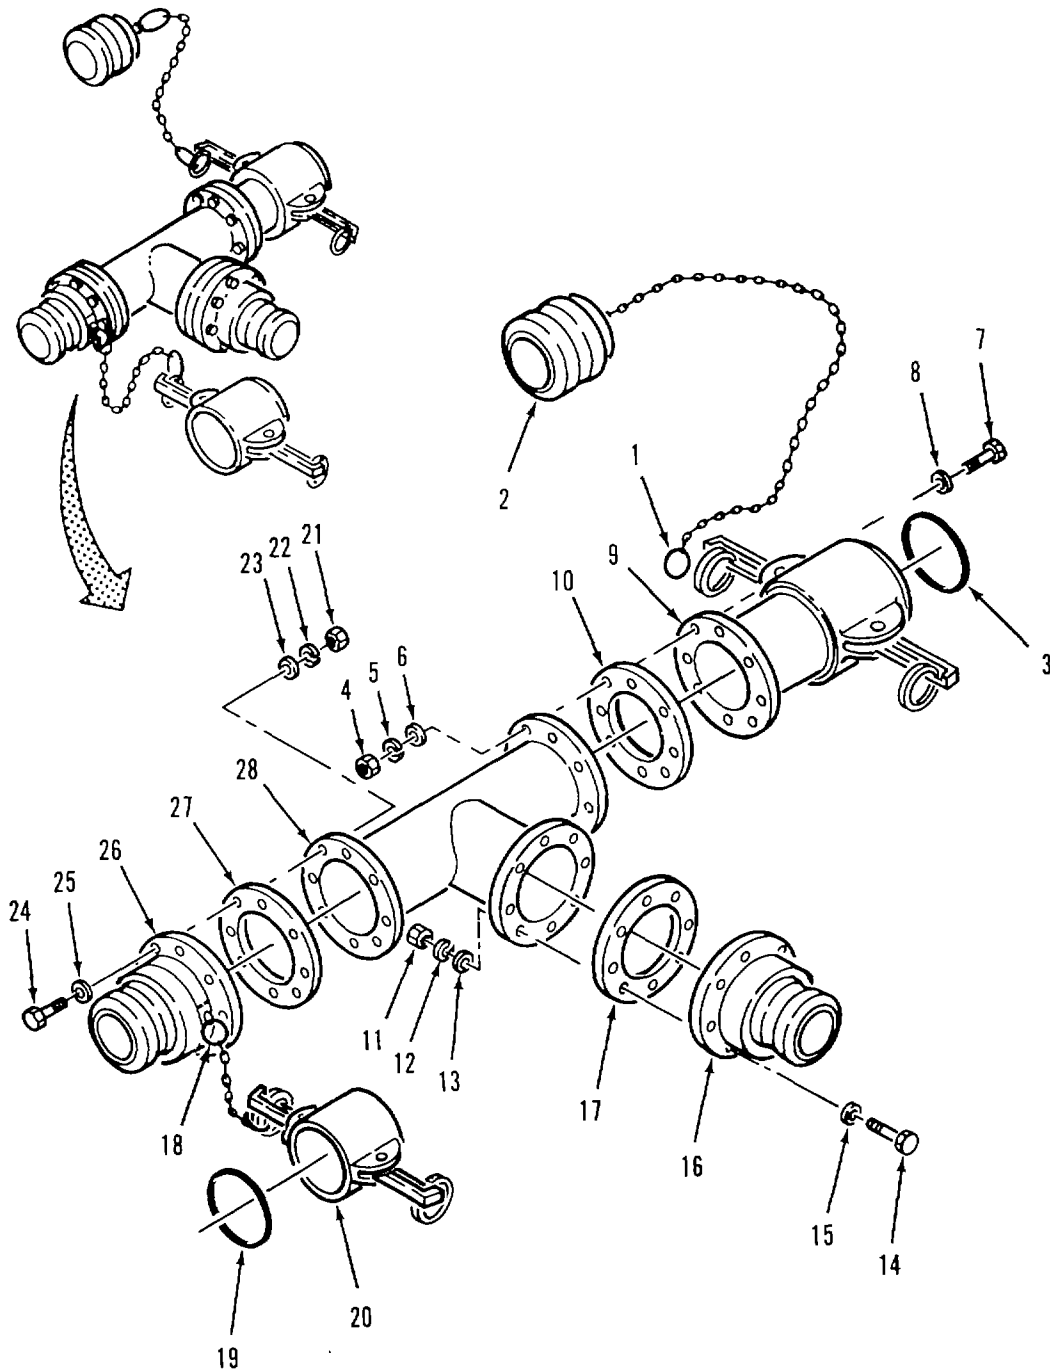

Figure 4-7. Tee Assembly (9117-Y1) Assembly.
- (1) Inspect male couplings (16 and 26) for cracks.
- (2) Inspect female coupling (9) for cracks and damaged lock arms.
- (3) Inspect tee (28) for cracks and corrosion.
- e. Assembly. Refer to figure 4-7.
- (1) Position gasket (27) and male coupling (26) on tee (28)
- (2) Install eight flat washers (23 and 25), bolts (24), lockwashers (22) and nuts (21).